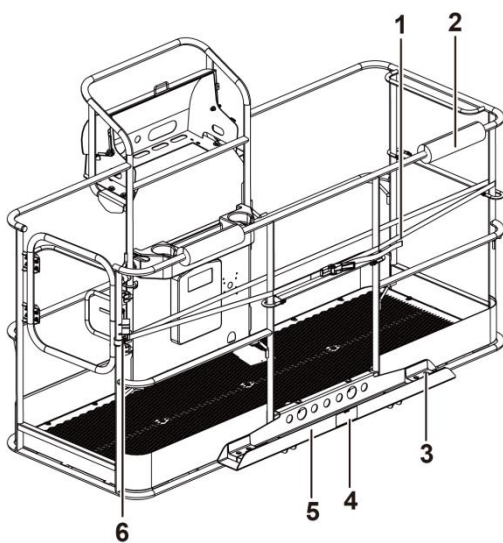

Figure 9-1
- 2) Place the upper part of the panel bracket in front of the bottom plate of the platform and press the bracket downward until it is flush with the upper surface of the bottom plate and the slot of the bracket is aligned with the corresponding slot on the bottom plate of the platform, as shown in Figure 9-1.
- 7) Install the rubber pad into the groove of the panel bracket and secure it with fasteners, as shown in Figure 9-1.
- 8) Install the sponge sheath onto the top bar of the platform, as shown in Figure 9-1.
still able to slide freely on the vertical beam, as shown in Figure 9-1.